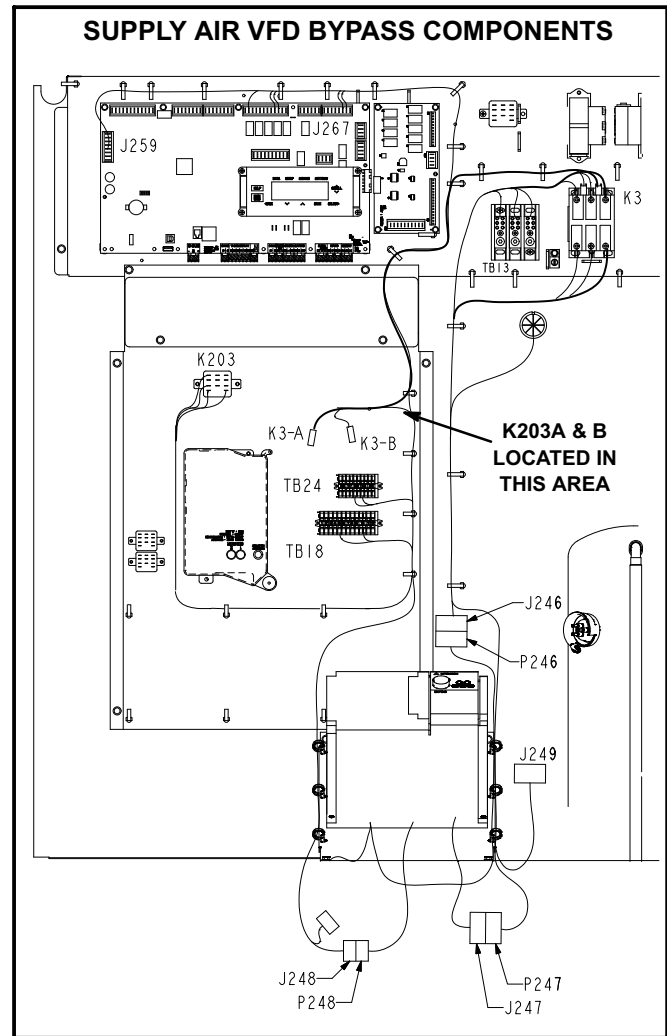

FIGURE 31
- 2- Locate J/P247 and J/P248 connectors near the VFD. See figure 31.
- 5- Locate VFD control relay K203 on the lower control panel next to terminal strip TB24. See figure 31.
- 6- Locate wires labeled K203-A and K203-B in area shown in figure 31. Disconnect insulated terminals.